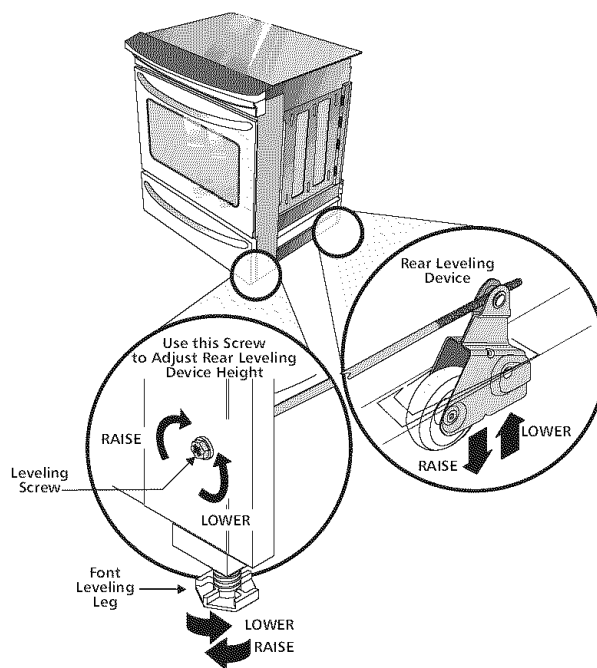

Figure 9
2. Adjust the appliance legs as follows until the underside of the cooktop surface is sitting level on the countertop (Figure 9).